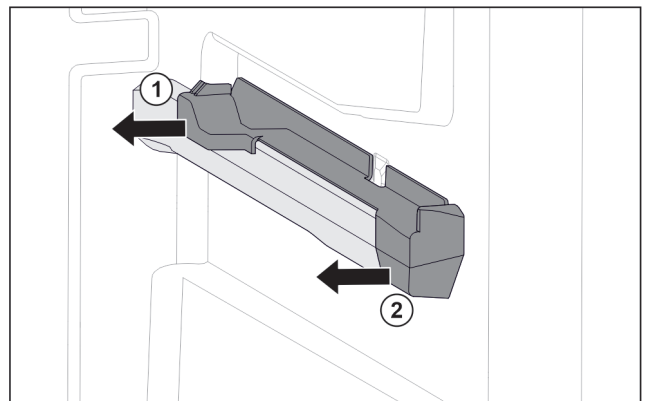

Fig. 125 Attachment on the right moulded rib
- ▶ Pull off attachment at the back sideways. *Fig. 125 (1)*
- ▶ Pull off attachment at the front sideways. *Fig. 125 (2)*